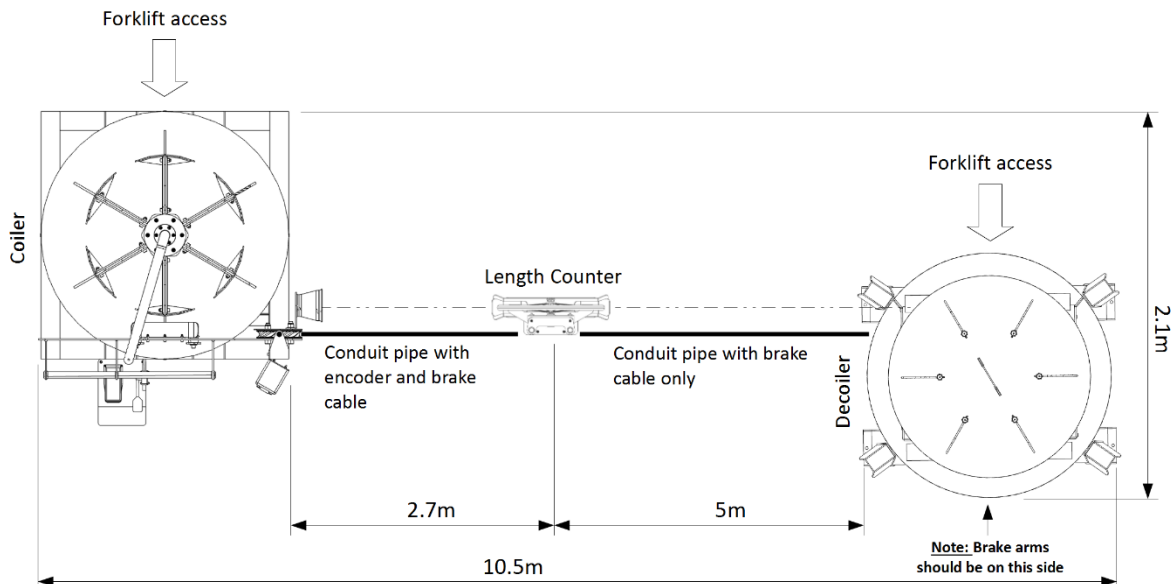

Figure 20: Floor plan
Shown in Figure 20 is the floor plan of the system once installed. Note that the auger should ideally run in a straight line from the decoiler, through the length counter and then through the coiler inlet. The system will still function even if these three elements are not completely aligned, but the layout shown below would yield optimum results.
- The floor layout in Figure 20 does not account for space for the operator to move around the units. It is advised that there should be at least 800mm space around the units for ease of access.